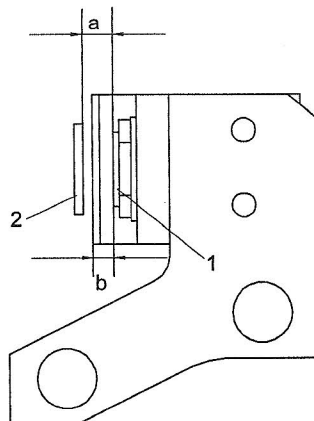
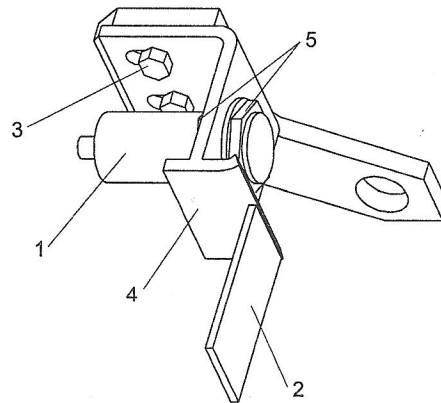

Fig. 05-43
Fig. 05-44
1) and the steel plate (2) (See Fig. 05-43).
- (1) Lower the bucket down ground, and operate the bucket-control lever to have it raise to desired position with proper break-out angle, and then maintain the control lever at "HOLD" position, afterwards, shut off the engine.
- (2) Adjust the mounting nut (5) of the approximate switch (1) in such a way that the top end (4) of the support bracket keeps a certain standard clearance (b) with the switch sensor (1). (See Fig. 05-43 and Fig. 05-44).
- (3) Unfasten the mounting bolt (3) and adjust the support bracket (4), and then adjust the clearance (a) between the approximate switch (1) and steel plate (2). Make sure the clearance (a) should be proper and standard. Afterwards, fix them all into original position.